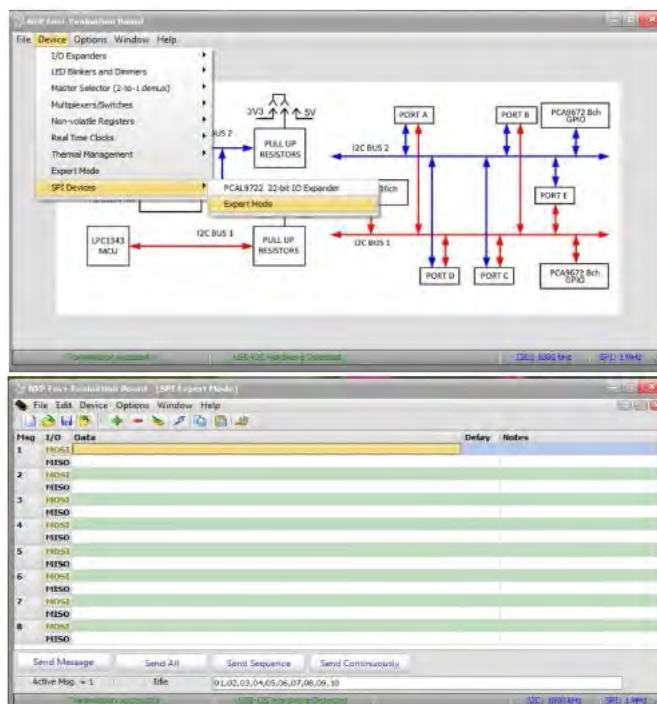

Fig 8. Selecting Expert Mode from Fm+ development board GUI
The PCA9745B is controlled by Fm+ development board GUI in Expert mode as shown in Fig 8.
Connect the hardware as described in Section 4.2. All jumpers are in default setting for PCA9745B demo board. When you have correctly installed the software and the demonstration board hardware is connected and recognized by the computer, start the Fm+ development board software. As shown in Fig 8, when the demonstration board hardware is correctly connected to the USB port and the computer recognizes it, the message “USB-I2C Hardware Detected” is displayed on the bottom of the window. SPI Frequency is controlled through the “Options” menu or by clicking on the frequency symbol on the bottom of the window.
1. From the 'Device' drop-down menus select 'Expert Modes' as shown in Fig 8.
- 1. From the ‘Device’ drop-down menus select ‘Expert Modes’ as shown in Fig 8.